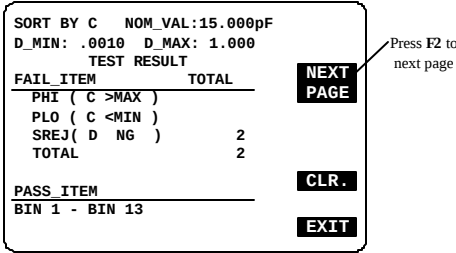

Figure 8-27
- Press **F2** key to see next page of test result (Figure 8-27, 8-28).